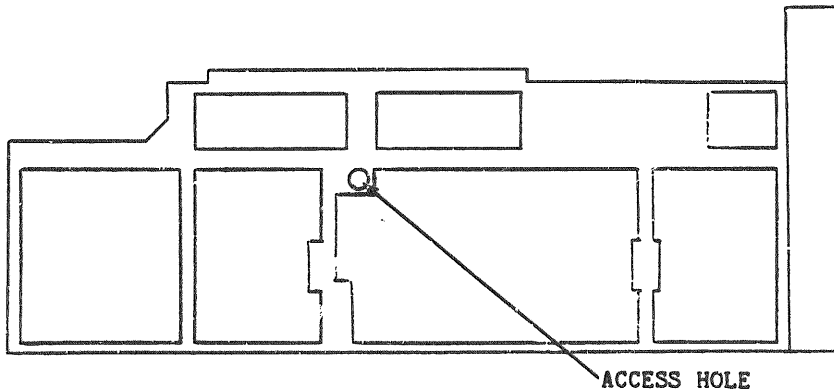

Figure 4-4. Index Adjustment Access
- 1) Turn the adjustment screw (see Figure 4-4) to set the index-to-data time to its nominal value of 200 microseconds (18 degrees = 25 microseconds).